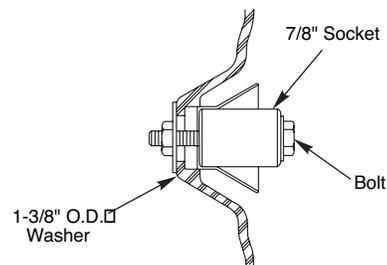

Figure 14
- C. Pull insert into cavity as shown in Figure 14.